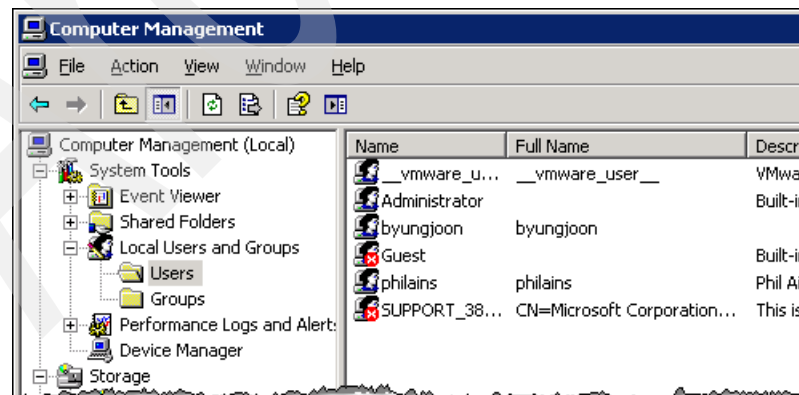

Figure 4-5 Local User and Group panel on Windows Server 2003
1. Open the Windows Computer Management Console shown in Figure 4-5. To create a user ID, select the Users folder, and then from the menu bar, click **Action → New User**.